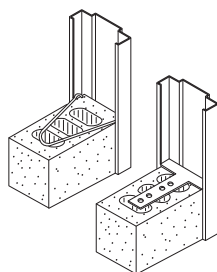

Fig. 7 – Anchors
- Install anchors (see fig. 7). If grouting is required, grout frame in the area of the anchors as block courses are laid up. Frames may also be supplied with anchors welded in place.